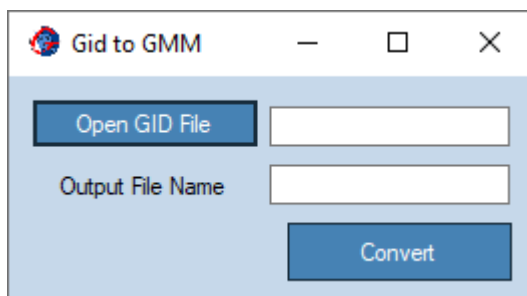

Figure 16: GID® to *Geo Meshing v3.1* dialog windows.
- **GID® to GM:** Opens a dialog window (shown in Figure 16) for converting GID® meshes files (*.msh) to *Geo Meshing v3.1* files (*.gmm). This program only works with 2D meshes exported from GID®. More information can be obtained at www.gidhome.com/.